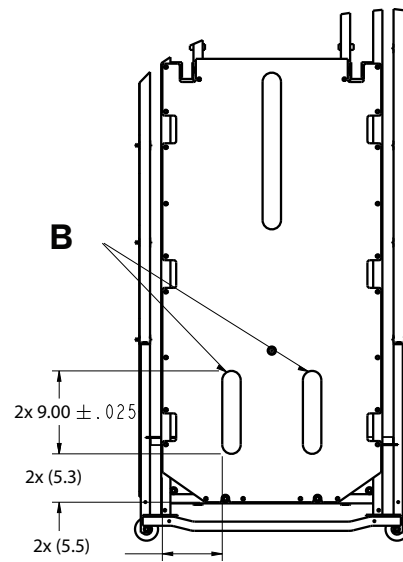

Figure 2 – Apply Velcro to the foot end
9. Repeat steps 1-8 to replace the **Velcro** (B) at the foot end (Figure 2).